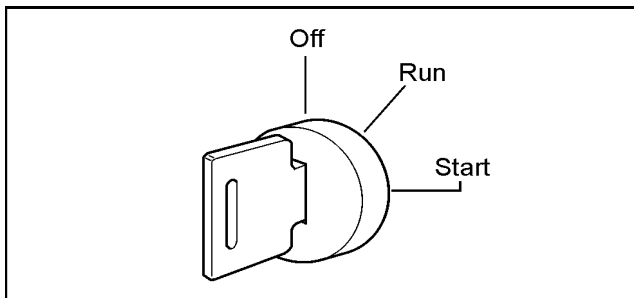

Figure 3-5. Ignition Switch.
1. Place the gearshift in the neutral (N) position.
4. Turn the key to the "START" position. (See Figure 3-5).
3. Turn the key to the "Run" position. (See Figure 3-5).